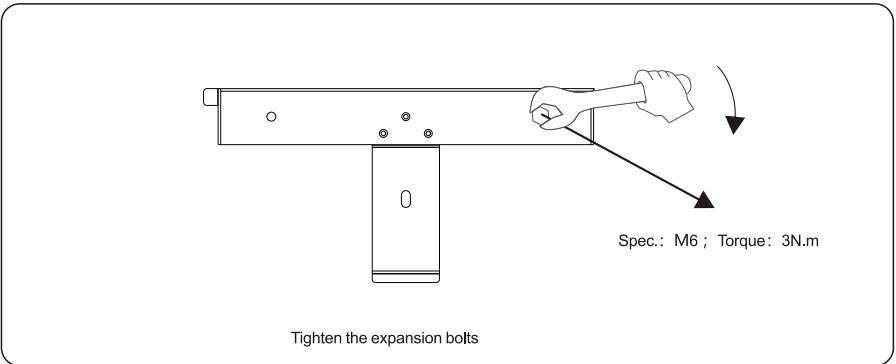

Figure 4.12 Completely secure the rear panel
Step 5 Tighten the expansion bolts with a torque of 3 N.m using a torque wrench to completely secure the rear panel on the wall, as shown in Figure 4.12.